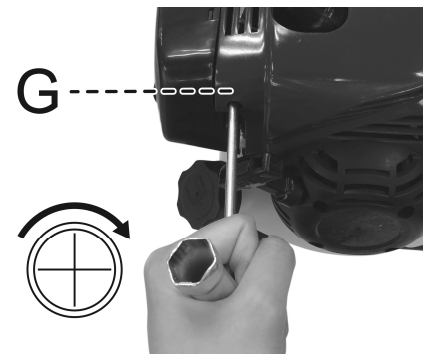

Fig.12
- Locate the idle adjustment screw (G) on the carburetor (Fig.12).